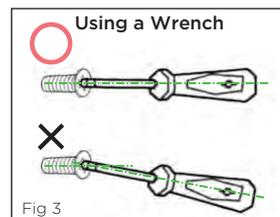

Fig 3
- When using the wrench, align it to the axis of the screw and press while turning. (Fig 3)